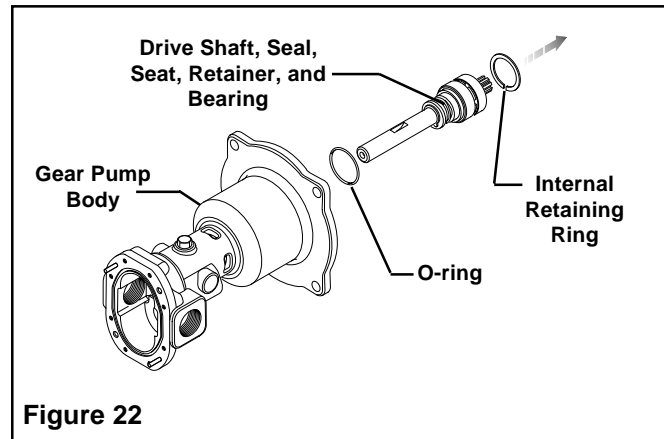

Figure 22
7. Remove the Internal Retaining Ring from the back of the Gear Pump Body (See Figure 22).
8. Press the Drive Shaft, Bearing, Seal, O-ring, and Retainer out of the Gear Pump Body in the direction indicated (See Figure 22).
9. Remove and discard the O-ring from the inside of the Gear Pump Body (See Figure 22).